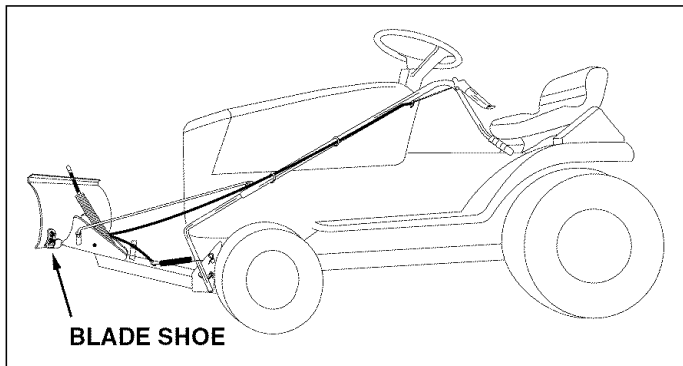

FIGURE 22
- The blade shoes at the ends of blade may be raised for close work on smooth surfaces or lowered to raise the blade to work on rough or uneven areas. Make sure both shoes are set evenly and that the nuts are tightened securely. See figure 22.